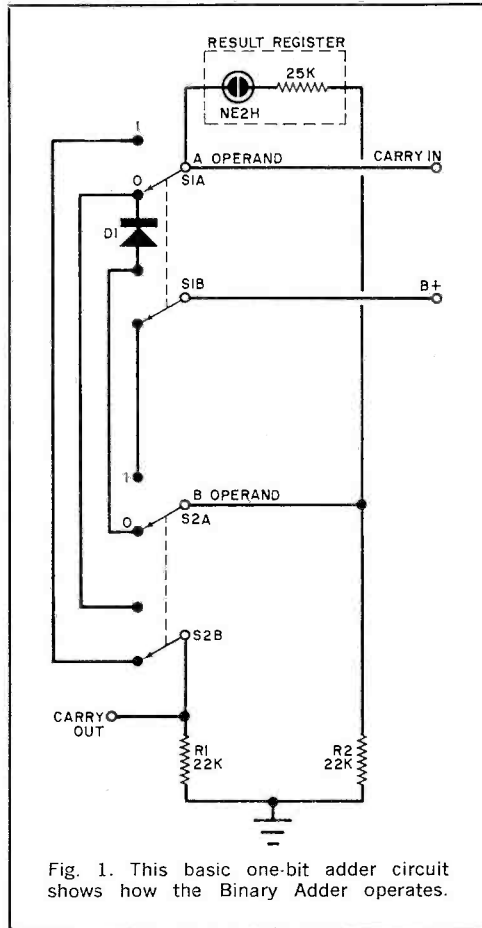

Fig. 1. This basic one-bit adder circuit shows how the Binary Adder operates.
The circuit used to perform binary addition of one digit from each of two operands is shown in Fig. 1. Each of the digits is represented by a d.p.d.t. switch and the result is read out on a neon lamp. To understand the operation of this circuit, refer to the extended truth table (Table 3).
Using this table, you will see how the circuit in Fig. 1 performs binary addition—that is, how the Result and Carry Out are formed properly for all combinations of the A Operand Bit, B Operand Bit, and Carry In.
**Result Generation.** As shown in Fig. 1, switches S1(b) and S2(a) connect the B+ supply to the right side of the neon lamp when the switches are in opposite positions. Otherwise, resistor R2 holds the right side of the lamp at ground potential, for all practical purposes. Thus, the right side of the lamp obeys Column 4 of Table 3, with ground meaning 0 and B+ meaning 1.
Examination of Fig. 1 shows that: the first condition is met by switches  $S1(a)$  and  $S2(b)$ , which connect the Carry In terminal to the Carry Out terminal whenever these switches are set differently; the second condition is met by diode  $D1$ , which conducts the B+ supply voltage to the Carry Out terminal when the switches are both set at 1; and the third condition is met by the grounding of resistor  $R1$ .
The gas within the lamp acts as an almost perfect insulator until a critical "breakdown" voltage is reached. This voltage ranges from 65 to 200 volts depending on such design factors as electrode spacing, gas pressure, gas mixture, etc. When the breakdown voltage is reached, the gas ionizes and becomes a relatively good conductor of electrical current. At this time, the voltage across the lamp drops to a level less than the breakdown voltage. Known as the "maintaining" voltage, this level ranges from 48 to 80 volts, depending on lamp design and is almost constant regardless of current flow in the lamp. These characteristics are shown in Fig. 1. If the voltage drops below the maintaining level, or if current flow through the lamps drops below the minimum, the gas deionizes and returns to its insulating condition.
Fig. 1. Typical voltage-current characteristics of a neon glow lamp. The values apply to no specific type. Current flow before breakdown may be much less than indicated (note that the current scale is logarithmic rather than linear). Normal operating region is plateau between minimum and maximum current points indicated. Destructive breakdown changes characteristics so as to render neon useless.
The neon lamp is a low-current device; normal operating currents range from 0.1 to 10 mA. Theoretically, a tube such as that whose characteristics are shown in Fig. 1 could be operated at currents up to 100 mA. However, destructive breakdown occurs very rapidly at high currents; and, for this reason, a resistor is always used in series with a neon lamp to limit the maximum current. The size of the resistor is not critical; the higher its resistance, the lower the current; and the lower the current, the longer the lamp life. However, with low current, light output is reduced and the time delay before breakdown (discussed in the next paragraph) is increased. The value of resistance actually used is thus usually a compromise with a range of 47,000 to 220,000 ohms being typical.